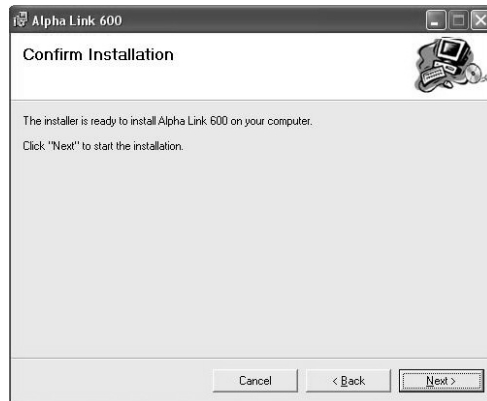

Figure 3 : Confirm installation
4. By default, the program will be installed in the following directory: '*C:/Program Files/Thermo /Alpha Link 600*'. Click "**Next**" to begin installing the program in this folder. Click "**Cancel**" to stop installing and exit the installation wizard (Figure 3).